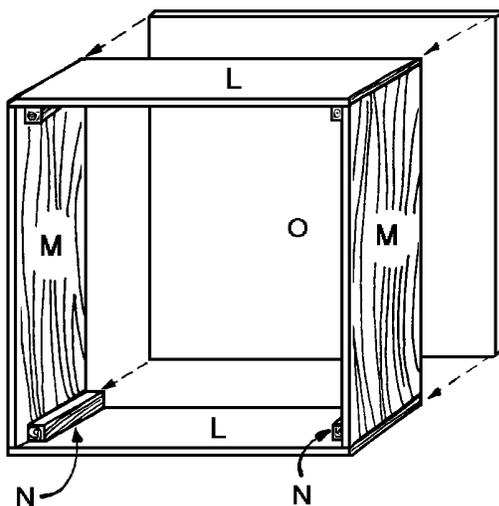
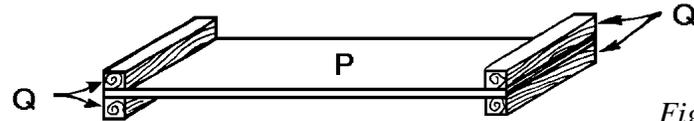

Figure 9
Figure 10
6. Place the two Side Housing pieces (M) between the two Top and Bottom Housing pieces (L). Glue and screw the Top and Bottom Housing pieces (L) to the Corner Supports (N) at all four corners. You should now have a box measuring 36-1/2 inches wide and 39 inches tall (outside measurements) as shown in Figure 9.
7. Cut one 36-1/2" x 39" Housing Back (O) from 3/4-inch plywood.
8. Fit the Housing Back (O) over the exposed edges of the housing assembly and glue and screw it in place, as shown in Figure 9, using 1-1/4"-long screws.
9. Cut one 18-1/4" x 37-1/2" Center Divider (P) from 3/4-inch-thick plywood.
10. Cut four Center Divider Supports (Q) from 2 x 2 pine, each measuring 18-1/4" long.
- With 2"-long screws, glue and screw all four Center Divider Supports (Q) to both sides of the Center Divider (P) along the 18-1/4-inch edges, as shown in *Figure 10*.